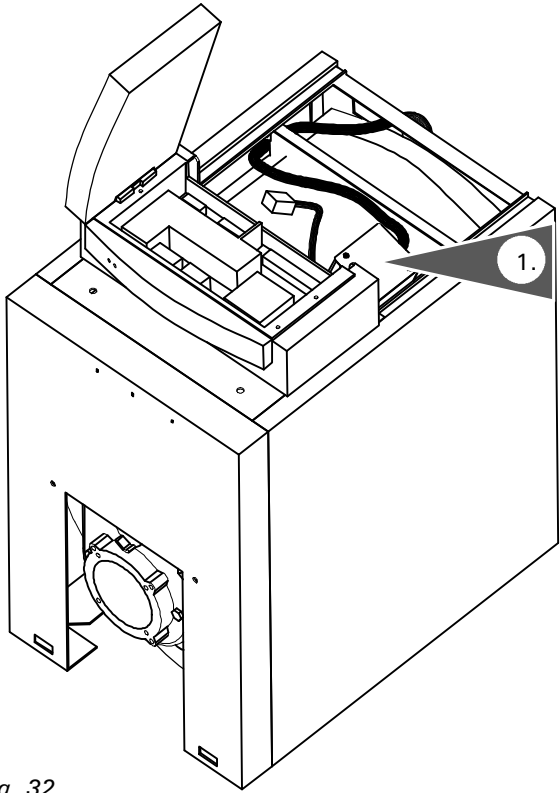

Fig. 32
3. Feed the power supply cabling of the system pump through the opening at the back of the boiler and connect to terminals in pump junction box. (See Fig. 32).